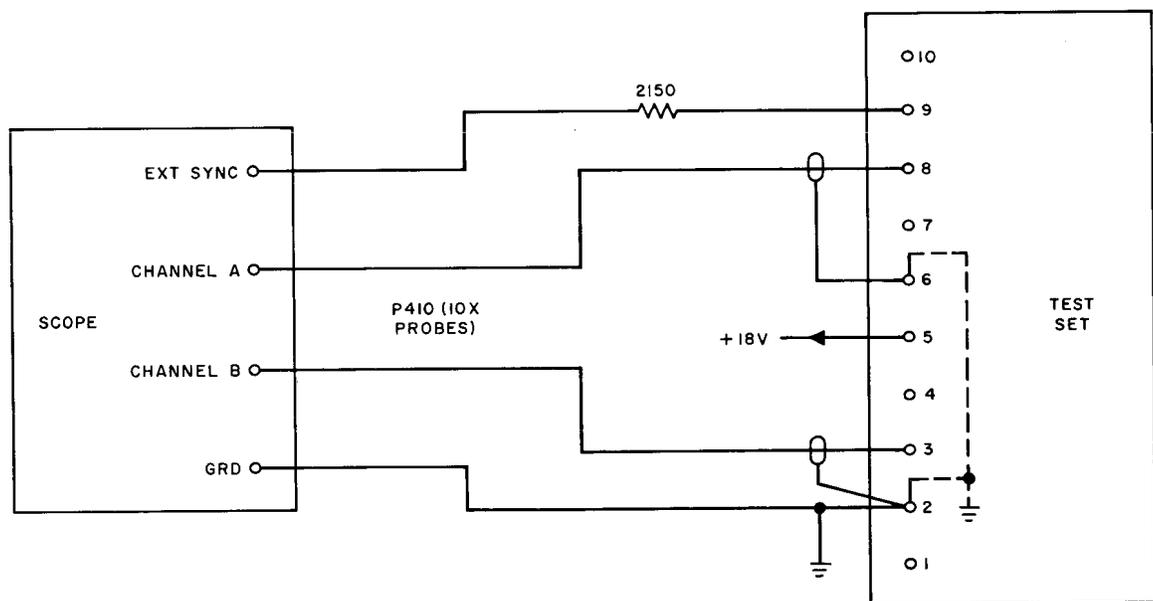

Fig. 41A — Monopulser Test Circuit
- (1) Set up the test circuit as shown in Fig. 41A. The scope EXT SYNC TRIGGER selector should be set to the (+) positive position.